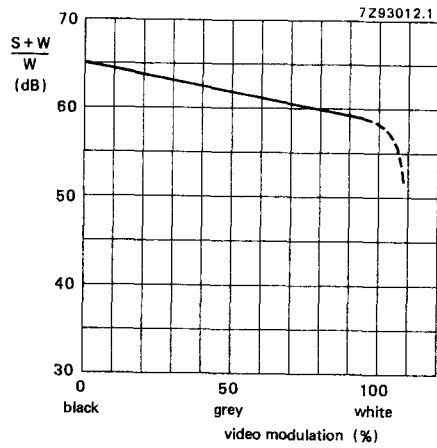

Fig. 4 Signal-to-weighted-noise ratio depending on video modulation.
a. 2T/20T pulses with white bars (see also Fig. 4)